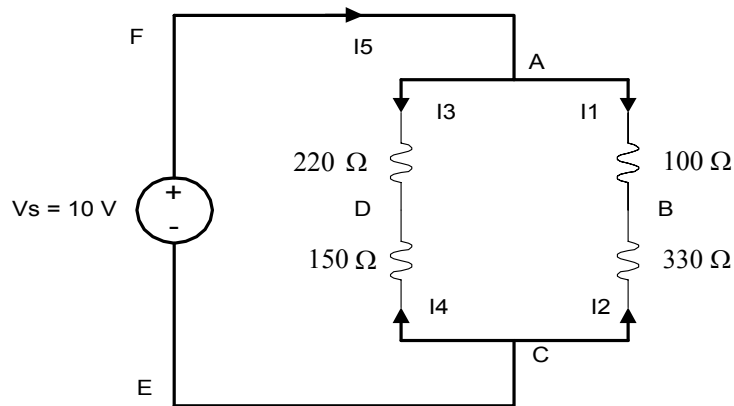

Figure 1
For the circuit shown in Figure 1, calculate:
- 1- Check the values of the resistors, used in the circuit of Figure1, using a multimeter. Record the values in Table 1.